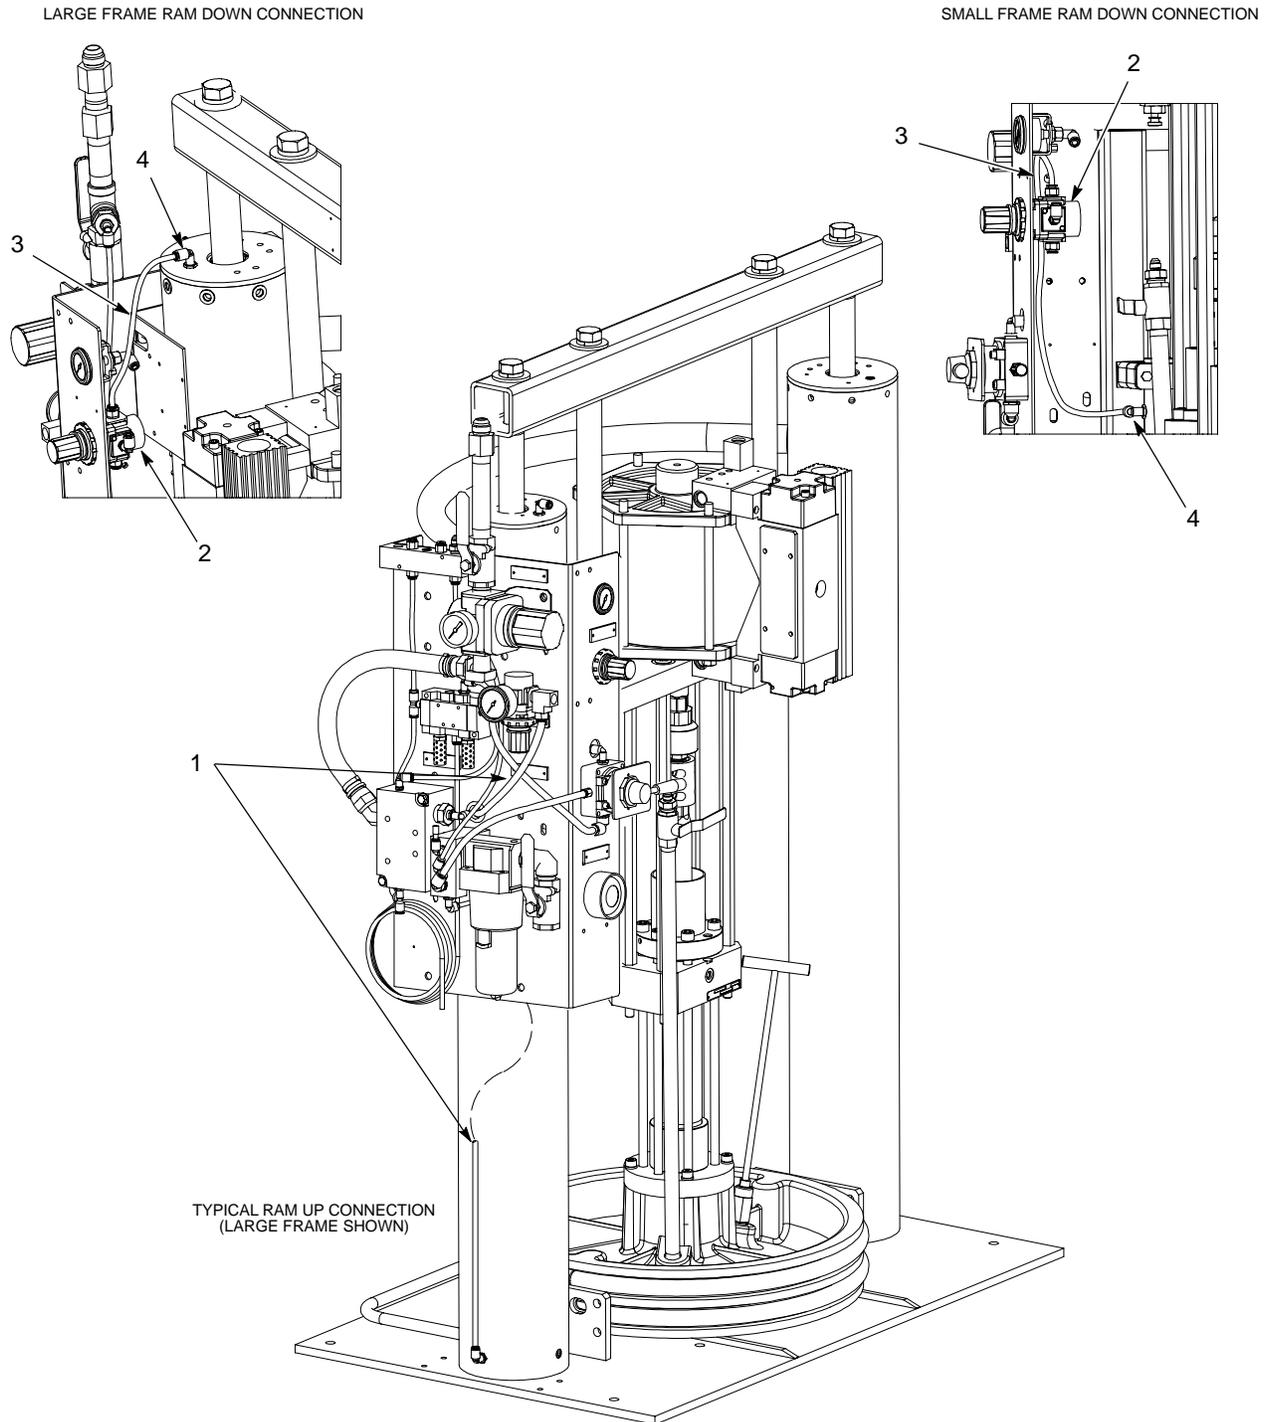

Figure 4 Ram Up and Ram Down Tubing Connections
1. See Figure 4. Connect the ram up tubing (1) as shown.
2. Connect the ram down tubing (3) between the regulator (2) and frame fitting (4).